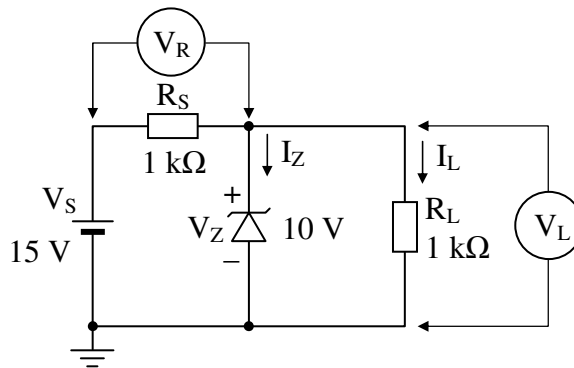

Fig. 4.5 Basic Zener regulator
The function of a voltage regulator is to provide a constant low ripple output voltage under varying load current conditions. While very high quality voltage regulators are available in integrated circuits, at times it may be sufficient and convenient to use a Zener diode as voltage regulator in simple power supplies (Fig. 4.5) and as voltage references in more complex power supplies and other applications. Since the Zener diode will conduct in the reverse direction for any output voltage V_L greater than V_z , V_L can never exceed V_z at normal conditions.
1. Construct the circuit shown in Fig. 4.5. Record the measured value of each resistor.
2. Determine whether the Zener diode of Fig. 4.5 is in the “on” state, that is, operating in the Zener breakdown region. Use the measured resistor values and the V_Z determined in Experiment 4.2. For the diode in the “on” state calculate the expected values of V_L , V_R , I_R , I_L and I_Z . Show all calculations.
3. Energize the network of Fig. 4.5 and measure V_L and V_R . Using these values calculate the levels of I_R , I_L and I_Z . Record the results in Table 4.3.
5. Energize the network of Fig. 4.5 with $R_L = 3.3$ k Ω and measure V_L and V_R . Using these values calculate the levels of I_R , I_L and I_Z . Record the results in Table 4.3.
7. Insert $R_L = 2.2 \text{ k}\Omega$ into Fig. 4.5 and measure V_L .